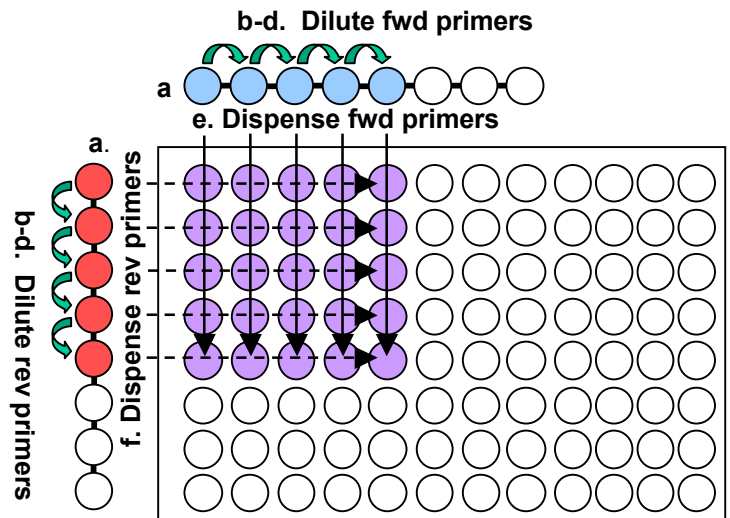

Fig 1: Follow steps 1a – 1f using diagram above
- Prepare and dispense diluted primers (Fig 1).